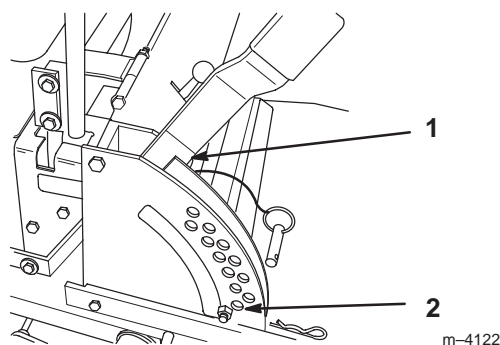
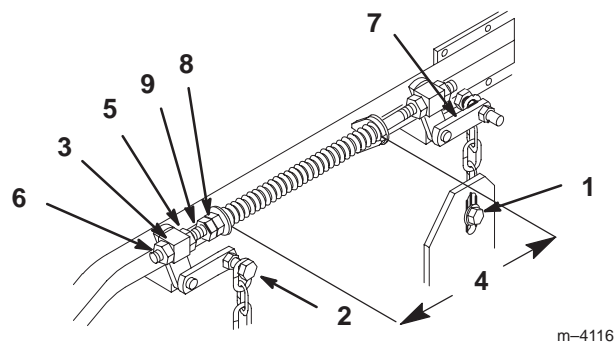

Figure 58
Figure 59
2. Check tire pressure of all four (4) tires. If needed, adjust to 13 psi (90 kPa)
4. Raise the deck to the transport position (Fig. 58). Take force off of the two large deck lift springs by loosening jam nut and front spring nut, in front of each spring, as far as possible (Fig. 59).
5. Place two 1-1/4 inch (35 mm) thick blocks under rear left and right lower edge of mower. Place one 1-3/8 inch (44 mm) block under front center lower edge of mower. Not under anti-scalp roller brackets. Lower mower to the 1-1/2 inch (38 mm) height-of-cut position (Fig. 58).
6. Loosen bottom chain bolt in slot at rear of deck. Repeat for opposite side. (Fig. 59).
7. Loosen front and rear locking nut on either side of front swivel. Loosen until front chains are loose and deck is supported by blocks. Repeat for opposite side. (Fig. 59).
8. When hardware is loosened, remaining tension in the large support springs will tend to rotate the deck lift handle up, out of the 1-1/2 inch (38 mm) position. Press down on the rear deck support arm to firmly return the deck lift handle to the 1-1/2 inch (38 mm) position (Fig. 59).
9. While continuing to press down on rear deck support arm, take the slack out of the rear chain and tighten hardware at the bottom (Fig. 59). Downward pressure may now be released. Repeat for opposite side.
14. Raise deck lift lever to the transport position (Fig. 58).
15. Adjust compression springs by turning the front spring nuts so the distance between the two large washers is 10-1/4 inch (260 mm). Then tighten jam nut (Fig. 59).